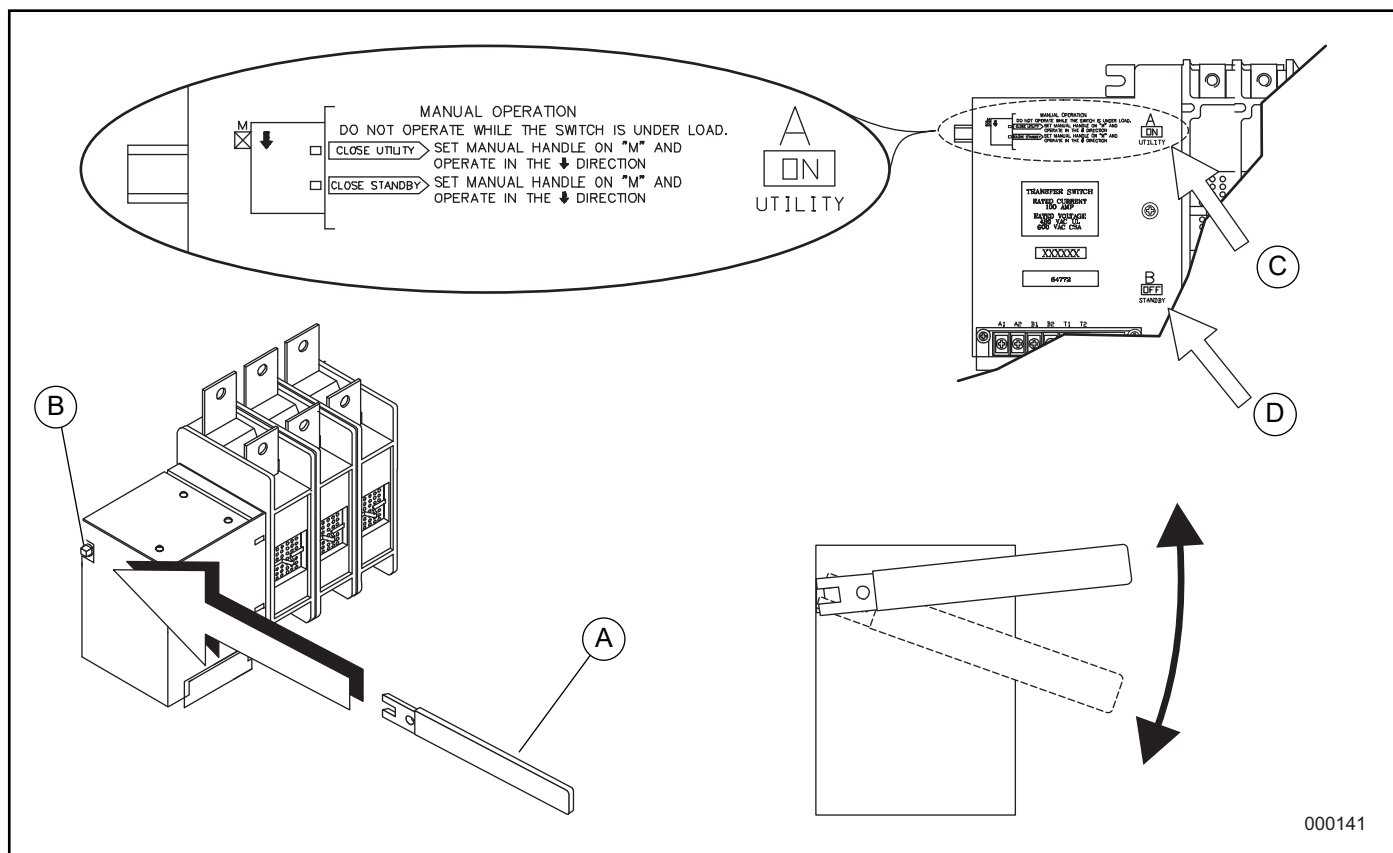

Figure 4-1. Actuating Transfer Switch
See **Figure 4-1**. A manual handle (A) is shipped with the transfer switch. Manual operation must be checked **BEFORE** the transfer switch is operated electrically.
3. See **Figure 4-1**. Note position of transfer mechanism main contacts (C, D) by observing display windows in “A” and “B” as follows:
See **Figure 4-1**. Before proceeding, verify the position of the switch by observing Window “A.” If Window “A” reads “ON,” the contacts are closed in the normal position; no further action is required. If it reads “OFF,” proceed as follows:
See **Figure 4-1**. Before proceeding, verify the position of the switch by observing Window “B.” If Window “B” reads “ON,” the contacts are closed in the EMERGENCY (STANDBY) position; no further action is required. If it reads “OFF,” proceed as follows: